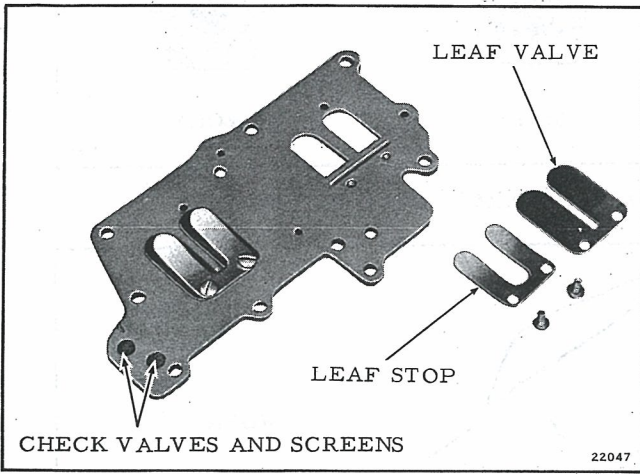

Figure 3-12. Disassembling Leaf Plate Assembly
a. Inspect the leaf plate assembly and disassemble if necessary. The leaf valves must be free from all varnish and gum, and the leaves must lay perfectly flat so that they form a seal with the leaf plate. Fuel recirculating check valves and screens must be free of gum and varnish. If check valves and screens are damaged, leaf plate must be replaced. See Figure 3-12.